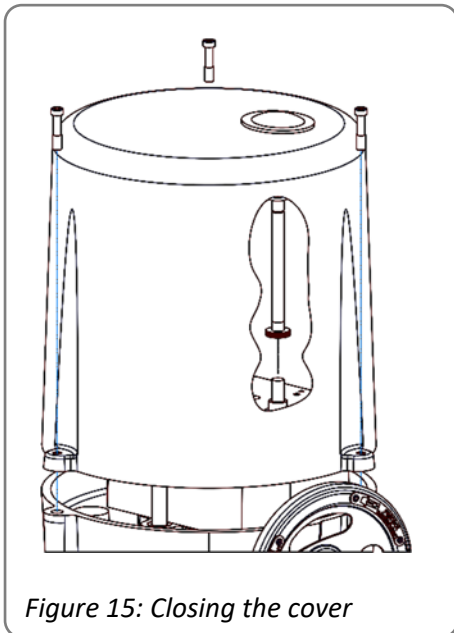

Figure 15: Closing the cover
- Put the cover on, and re-install the handwheel (fig. 15).